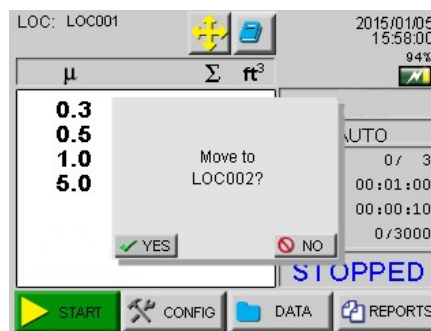

Figure 5-57 Auto Increment Prompt
Press the AUTO INC button to enable automatic incrementing to the next location after completing the number of cycles for the current location. See Figure 5-57. This eliminates the need for the user to manually change the location.
- **ApexPortable** will prompt the user "Move to LOC***?" as shown in Figure 5-57. A 'Yes' response allows the instrument to change location to the next.